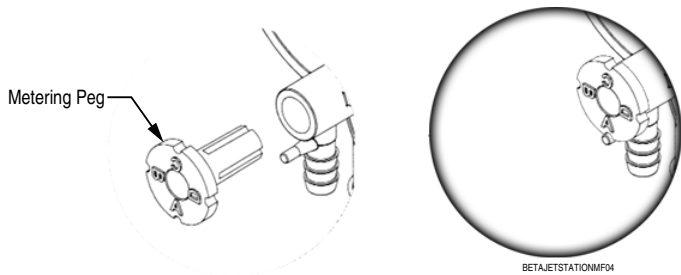

Figure 4. Inserting Metering Peg, “A” Facing Down
10. Put the A-D metering peg in as shown in Figure 4, with the A on the bottom. Hold down the cover long enough to fill the pickup tube with chemical.
11. Select the metering peg that offers the desired dilution, using the following chart for reference. Place the letter that is the desired setting on the bottom, where the lock pin holds the metering peg in place (see Figure 4).